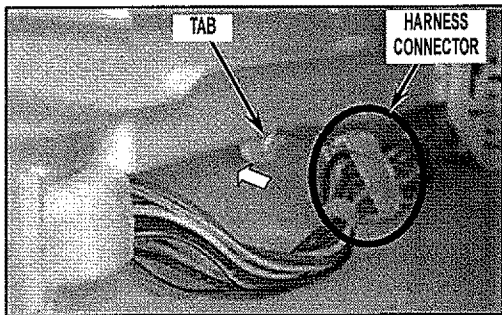

FIGURE 5
7. Disconnect harness, push in middle tab. See Figure 5.